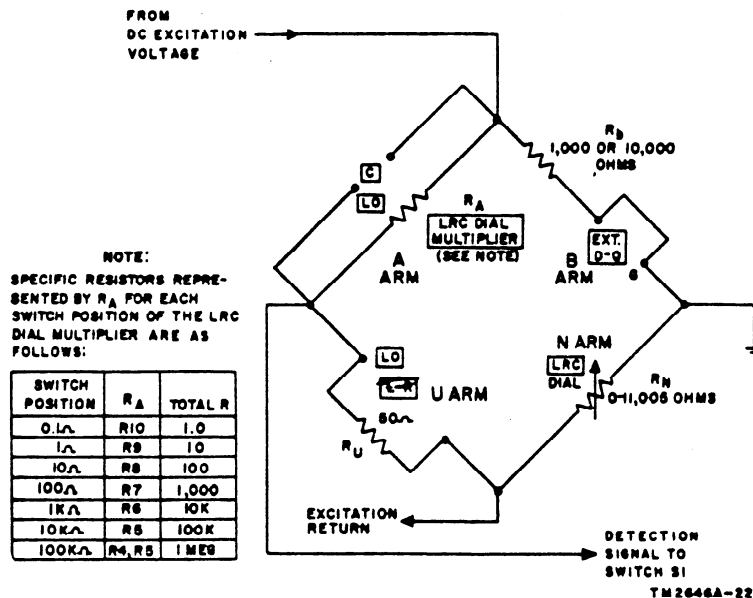
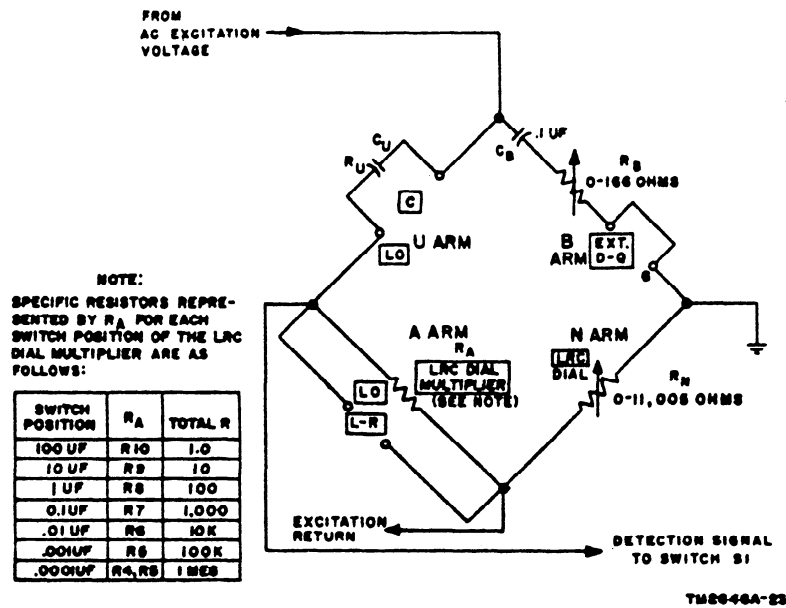

Figure 20. Wheatstone resistance bridge circuit, simplified schematic diagram.
Figure 21. Modified De Santy capacitance bridge circuit, simplified schematic diagram.
a. *General.* The bridge network circuitry used for the various test set measurements is shown in figure 19. LRC DIAL MULTIPLIER S5 selects one of the ratio A arm (fig. 20) resistors R4 through R10 (fig. 19) to obtain a null balance. Resistors R21 through R25 in the ratio B arm (fig. 20) are selected by circuit selector switch S6, section 1. The Q and D-Q dial, consisting of rheostats R21, R24, and R25, controls these components in the ratio B arm. The circuit selector switch, with the connections to the binding posts, also alters the bridge network arrangement to the basic circuits shown in figures 20 through 23. Switch S7, actuated by a cam on the circuit selector switch, alters the bridge when measuring inductances when the circuit selector switch is in the L and D-Q x 1 position. Capacitor C2 is a precision component with a tolerance of  $\pm .25$  per cent and serves as the standard when measuring capacitors and inductors. The standard calibrated resistance against which components under measurement are compared is composed of resistors R11 through R20 (ratio arm N, fig. 21), selected by LRC outer dial switch S4; resistors R27 through R35, selected by LRC middle dial switch S8; and LRC inner dial potentiometer R36.
b. *Wheatstone Resistance Bridge Circuit* (fig. 20). When measuring resistors, the bridge controls are adjusted as explained in paragraph 18. The network circuitry, when these adjustments are made, becomes a basic Wheatstone bridge composed of resistance arms  $R_u$ ,  $R_a$ ,  $R_n$ , and  $R_b$ .  $R_u$  represents the unknown resistor under measurement. When the voltage drop across resistance arm  $R_b$  equals the voltage drop across arm  $R_n$  and the voltage drop across resistance arm  $R_a$  equals the voltage drop across resistance arm  $R_u$ , no current flows in the detection circuit, and the bridge is considered to be balanced. The condition of balance may be expressed by the formula:
c. *Capacitance Bridge Circuit* (fig. 21). When measuring capacitors, the test set controls are manipulated as explained in paragraph 23. When the controls are adjusted, the network circuitry becomes a modified De Santy capacitance bridge of the unequal ratio arm type and uses standard capacitor  $C_2$  for measurement. The impedances for the two capacitance arms can be shown to be:
where:  $Z_u$  is impedance of the U ratio arm (fig. 21).